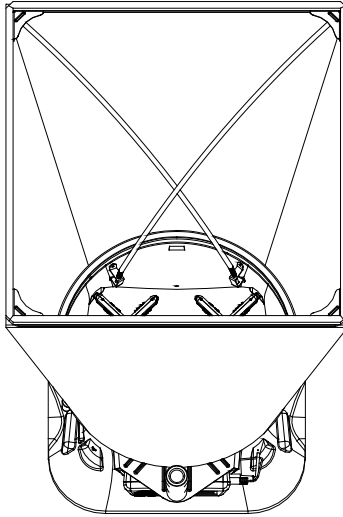

Figure 14: Installing a Support Pole
3. Grasp the support pole. Bend the pole slightly to insert the top end of the pole into the support pole cup located in the opposite corner of the fabric frame. The poles are connected to the frame corners in a crisscross fashion as shown in Figure 14.